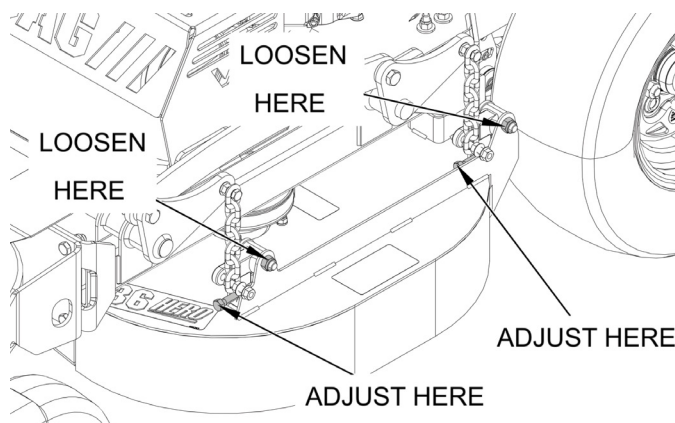

Figure 6-3. Cutter Deck Level Adjustment
1. Loosen the elastic stop nuts securing the deck level links on the front and rear of the lower side. See Figure 6-3.
2. Turn the adjustment bolts on the front and rear deck level links clockwise until the cutter deck is level between both sides. See Figure 6-3.
3. Tighten the elastic stop nuts to secure the front and rear deck level links. This secures the cutter deck in the proper position. See Figure 6-3.
A: Loosen the elastic stop nuts securing the deck level links on the front and rear of the cutter deck. See Figure 6-3.
C: Tighten the elastic stop nuts to secure the front and rear deck level links. This secures the cutter deck in the proper position. See Figure 6-3.